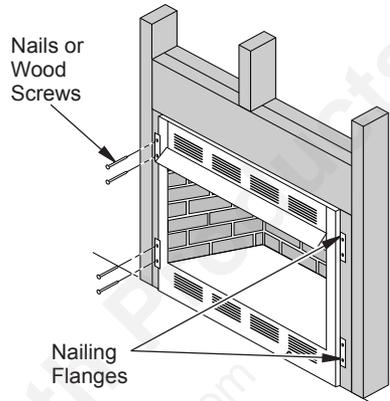

Figure 15 - Attaching Firebox to Wall Studs
7. Attach firebox to wall studs using nails or wood screws through holes in nailing flange (see Figure 15).